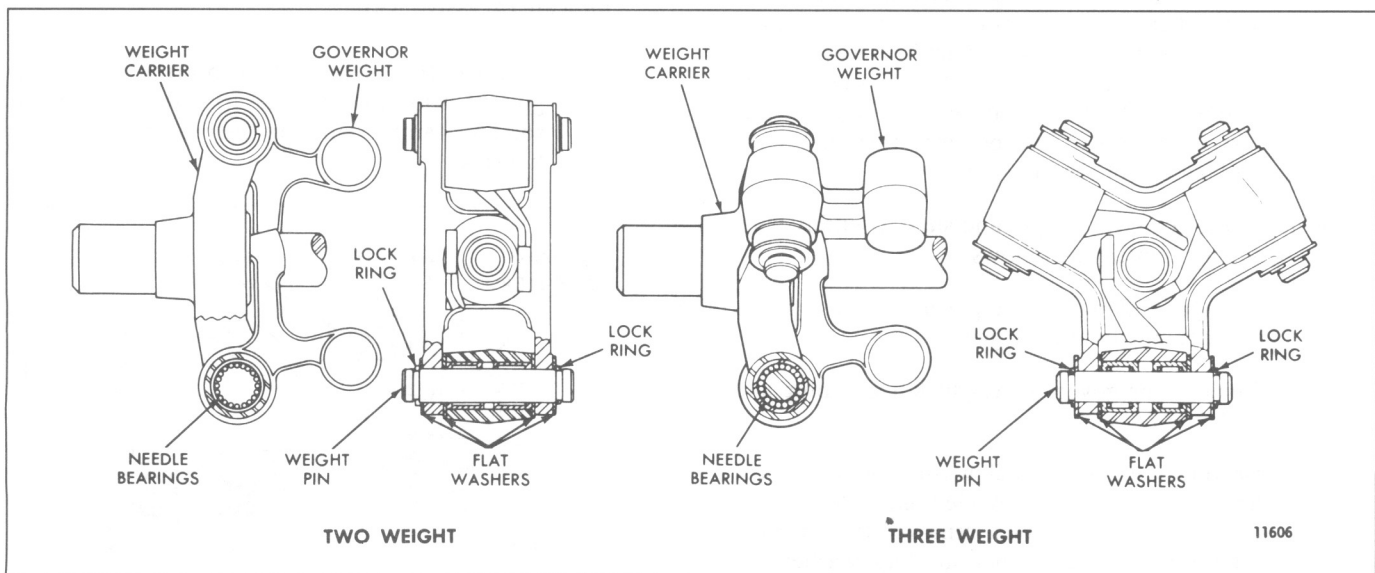

Fig. 10 – Cross Section of Governor Weight Assemblies (Turbocharged Engines)
Disassemble the governor weights and shaft assembly as follows (Fig. 10):
- Refer to Fig. 10 and remove the lock ring from the weight pin with a pair of snap ring pliers. Then remove the weight pin, flat washers and weight assembly from the weight carrier. Remove the second weight from the carrier in the same manner.